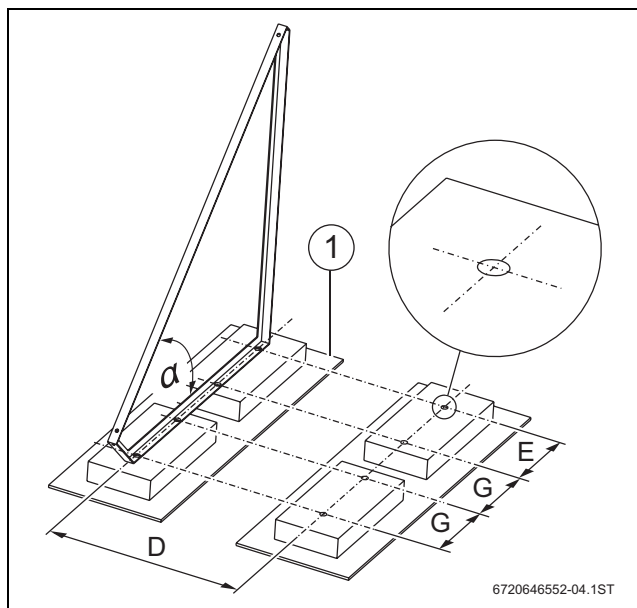

Fig. 20
- ▶ Maintain the clearance between the angle section frames (→ Fig. 20).
- ▶ To prevent the sealing membrane of the roof being damaged, underlay the concrete slabs with conventional protective mats (→ Fig. 20 [1]).
- ▶ Align the concrete slabs in accordance with the dimensions and locations of the drilled holes (→ Fig. 20, Tab. 14).